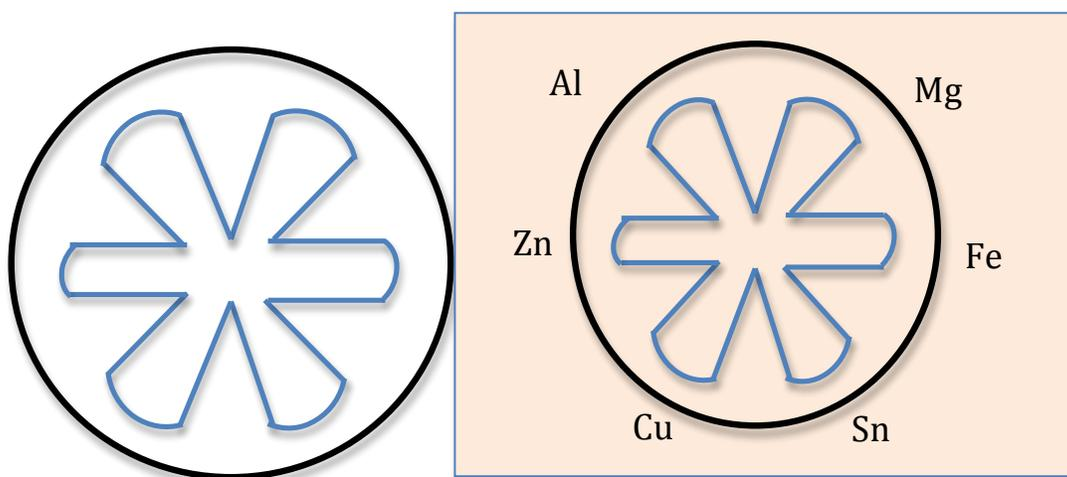

Figure 1.
1. Cut six triangle shaped wedges out of a piece of filter paper and place the filter paper in a Petri dish. Place the Petri dish on paper toweling and label with the metals to be tested, as shown in Figure 1.